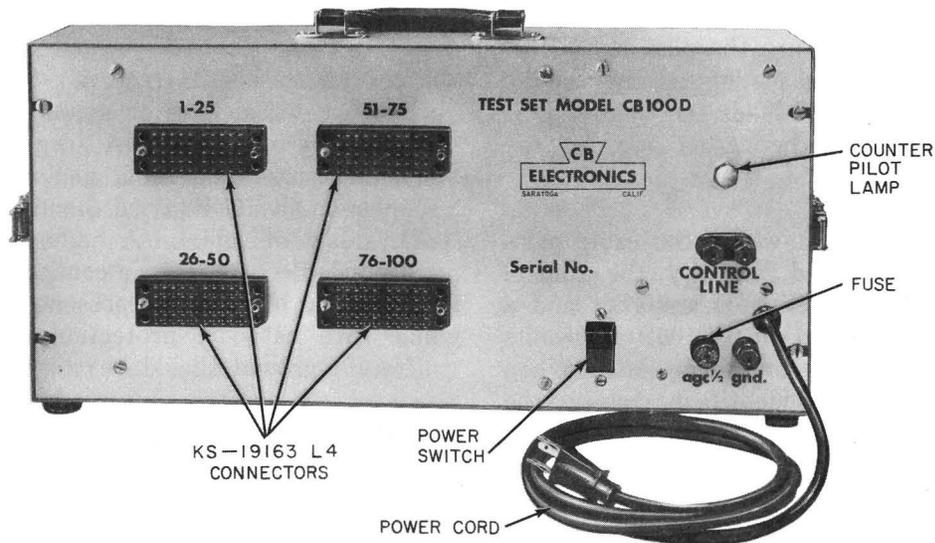
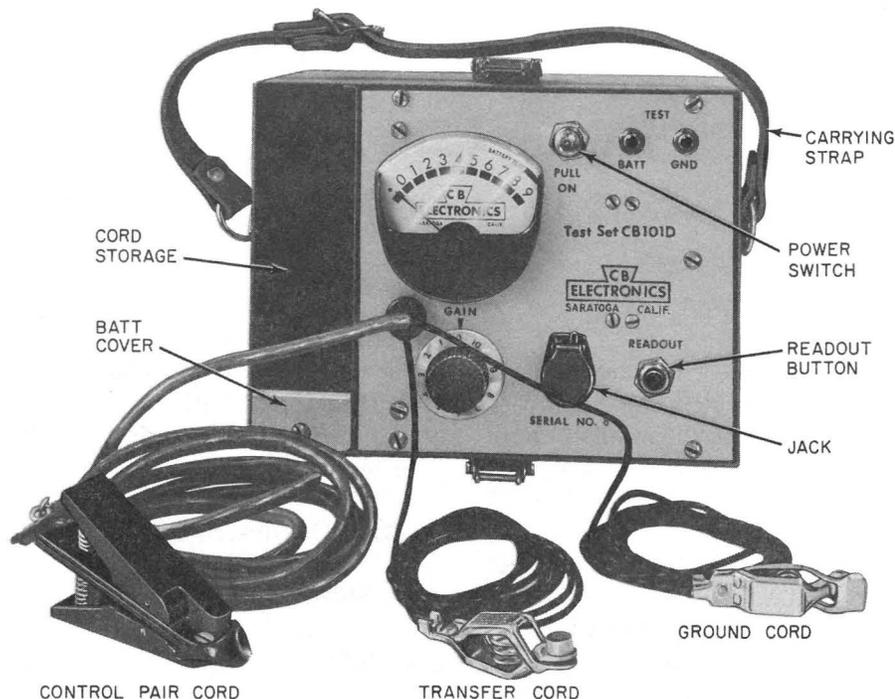

Fig. 1—Central Office Test Set—CB100D
Fig. 2—Field Test Set—CB101D
1.02 The CB100D (Central Office) Test Set, Fig. 1, together with the CB101D (Field) Test Set, Fig. 2, make up the CB Automatic Pair Identifier.